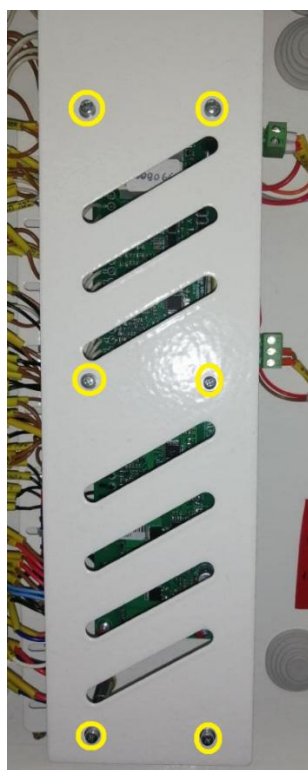

Figure 18 – Remove extension unit safety plate
1. Remove safety plate, unscrewing 6 screws, as shown at the figure 18, using crosshead screwdriver.